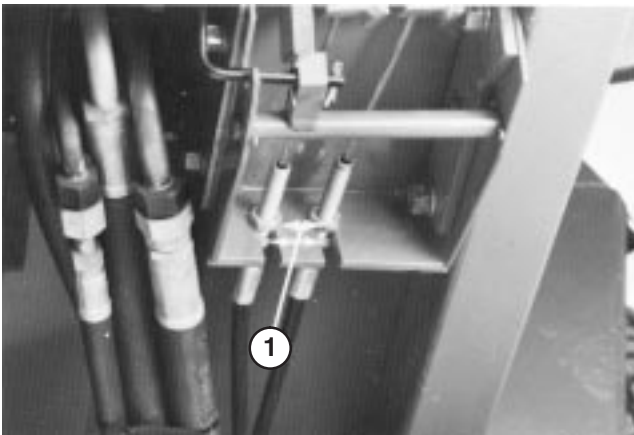

Figure 48
1. To reduce free travel of turn pedals—tighten the brakes—loosen front nut on threaded end of brake cable (Fig. 48). Then tighten rear nut to move cable backward until turn pedals have 1/2 to 1 inch (13 to 25 mm) of free travel. Tighten front nut after brakes are adjusted correctly.